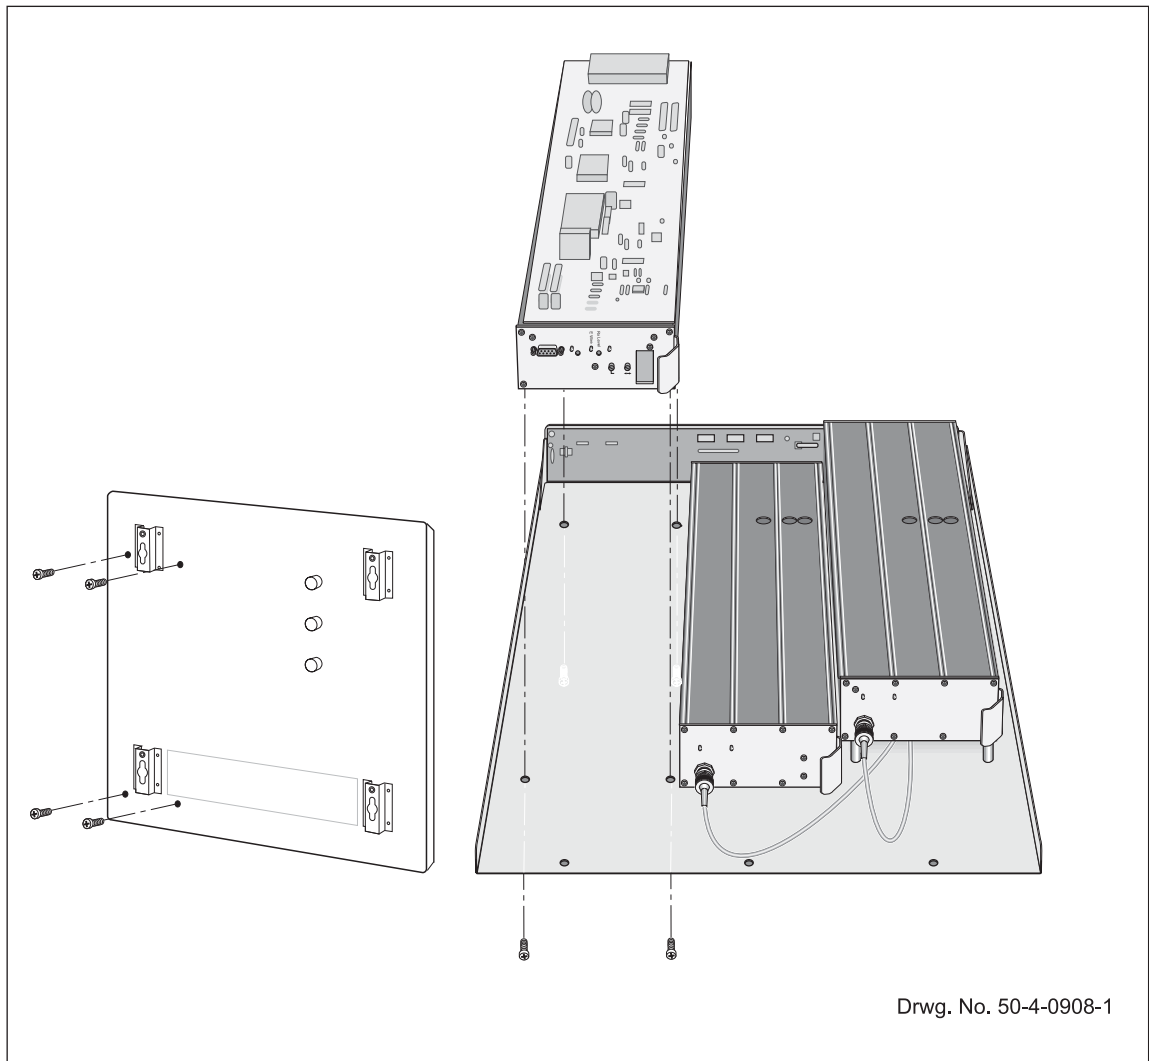

Figure 4.2: Removing Controller Module from the Wall Mount Terminal
1. Identify and remove the four screws on the underside of the wall mount chassis that hold the controller module in position (see Figure 4.2 above) Save the screws for refitting.
4. Align the module into position on the wall mount chassis. Take care that the holes in the module line up with the four holes in the chassis (see Figure 4.2) and that the PCB connector on the module fits snugly into the socket on the motherboard.